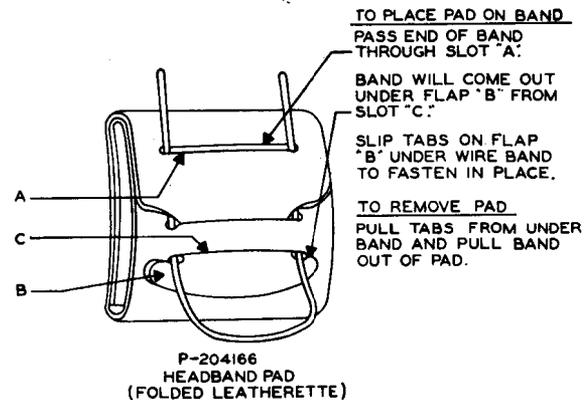

Fig. 6 - Placing Pad on Headband
8.02 Replace pads that are worn, torn, or have a rough surface which might catch in the hair. Attach the folded leather or synthetic rubber pad to the 15A headband (see Fig. 6).
8.04 The new soft-cushion headband pad (P-10E121) is a rectangular shaped pad, 2 by 2-3/4 inches. The pad is equipped with a snap button which is centered between two slots on the back of the pad (see Fig. 6).